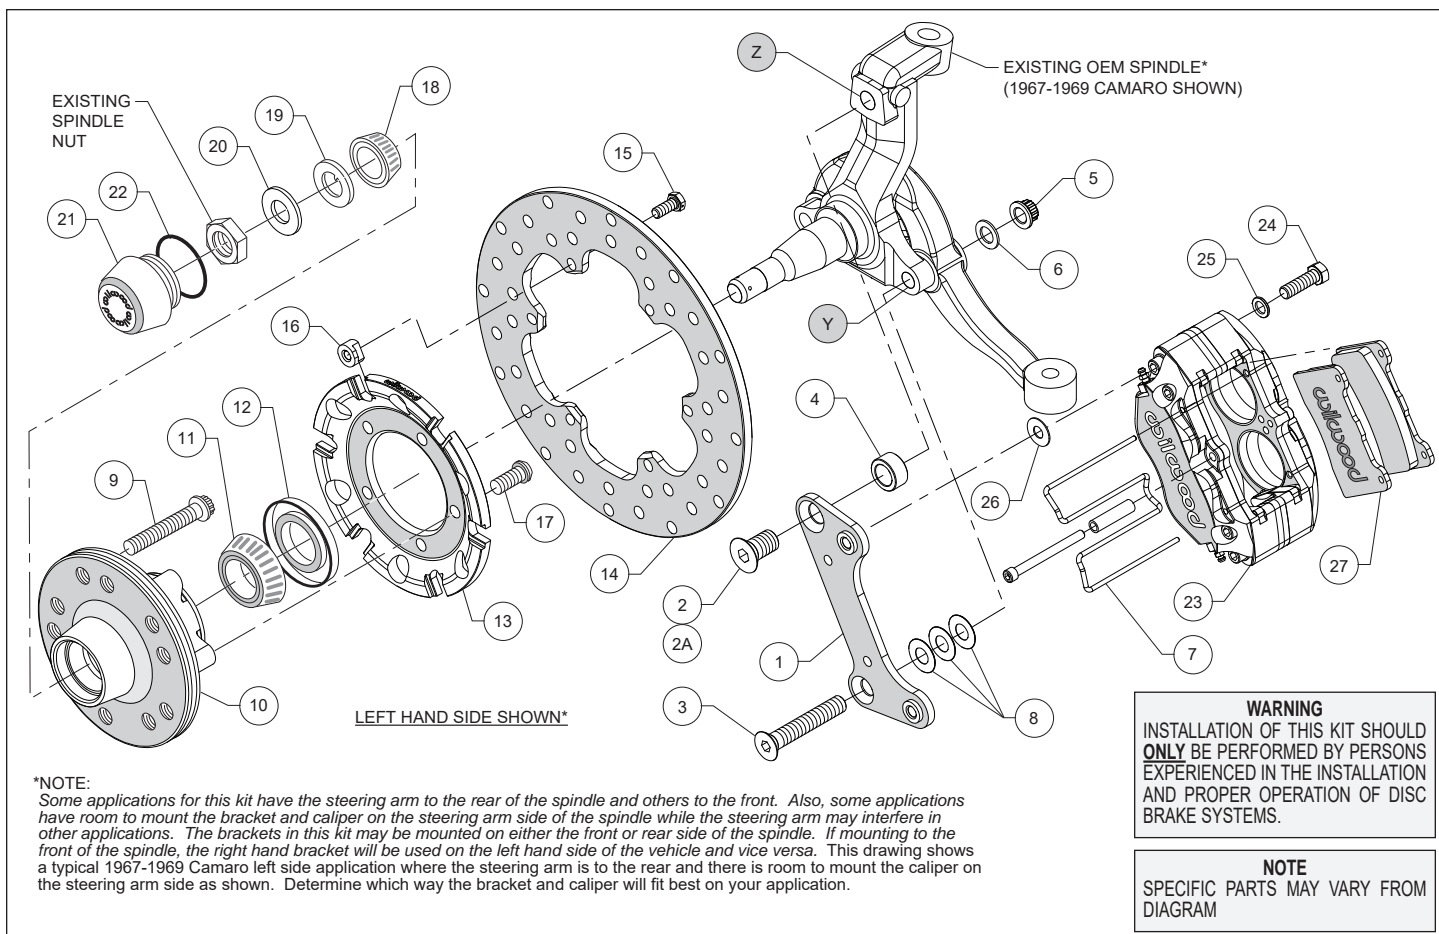
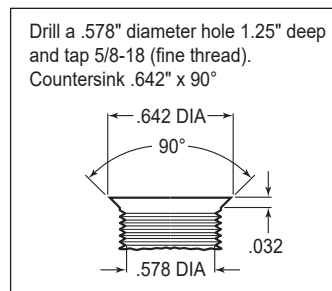
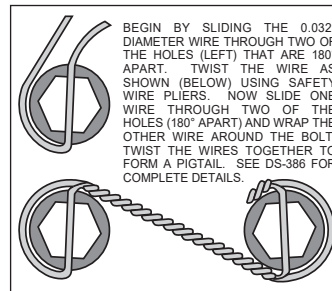
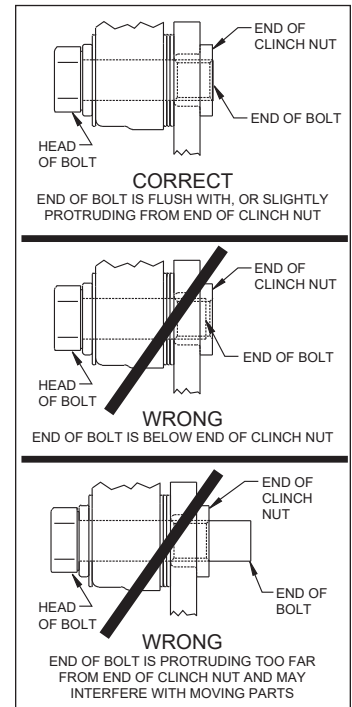

Figure 1. Typical Installation Configuration
Figure 3. Drill and Tap Detail
Figure 4. Safety Wire Diagram
Figure 5. Clinch Nut Engagement Diagram
Assembly Instructions (numbers in parenthesis refer to the parts list, on the preceding page and Figure 1): **CAUTION:** All mounting bolts must fully engage clinch nuts. Be sure to check that all bolts are either flush or protruding through flanged side of clinch nut after shimming, Figure 5.
•**NOTE:** Some applications for this kit have the steering arm to the rear of the spindle and others to the front. Also, some applications have room to mount the bracket and caliper on the steering arm side of the spindle while the steering arm may interfere in other applications. The brackets in this kit may be mounted on either the front or rear side of the spindle. If mounting to the front of the spindle, the right hand bracket will be used on the left hand side of the vehicle and vice versa. Figure 1 shows a typical 1967-1969 Camaro left side application where the steering arm is to the rear and there is room to mount the caliper on the steering arm side as shown. Determine which way the bracket and caliper will fit best on your application.
•**NOTE:** Some spindles in this year range may require the following modifications (reference Figure 1 and Figure 3): Top anchor pin hole (Z) must be drilled and tapped to the dimensions as outlined in Figure 3. The lower bolt hole (Y) in the spindle used to mount the new caliper bracket, and the mating steering arm hole, must be enlarged to .50" by drilling. It is recommended these modifications be performed by a qualified machinist.
•Install wheel studs (9) into the hub (10), Photo 1. Torque to 77 ft-lb. **NOTE:** There are two five lug patterns in the hub (5 x 4.50 and 5 x 4.75). Ensure the correct hub stud pattern is being used to fit the wheel application.
•Pack the large inner bearing cone (11) with high temperature disc brake bearing grease (available from your local auto parts store) and install into the backside of the hub (10), Photo 2.
•Install the grease seal (12) by pressing into the backside of the hub (10), flush with the end of the hub, Photo 2.
- Orient the rotor (14) and the rotor adapter (13) as shown in Figure 1 and Photo 3. Attach the rotor to the adapter using bolts (15) and T-nuts (16). Using an alternating sequence, apply red *Loctite*® 271 to the threads, and torque to 220 in-lb. Safety wire bolts using standard 0.032 inch diameter stainless steel safety wire as shown in Figure 4. Refer to Wilwood's data sheet DS-386 (available at www.wilwood.com/Pdf/DataSheets/ds386.pdf) for complete safety wire installation instructions.
- Mount the adapter/rotor assembly (13 and 14) to the hub (10) using bolts (17), as shown in Figure 1 and Photo 4. Using an alternating sequence, apply red *Loctite*® 271 to the threads, and torque to 45 ft-lb.
- Disc Brake Spindle Application Only: Follow the instructions below, but instead use bolt (2A), and spacer (4) in the upper bolt hole location, Figure 1.
- Orient the caliper mounting bracket (1) as shown in Figure 1 and Photo 5, and install using bottom bolt (3), washer (6), and nut (5), Figure 1. Initially place three .032" thick shims (8) between the bracket and spindle. Install the upper bolt (2). Temporarily tighten bolts. **NOTE:** The bracket must fit squarely against the mounting surfaces on the spindle. Inspect for interference from casting irregularities, machining ridges, burrs, etc. Temporarily install the new hub and rotor assembly. Check that the bracket is aligned parallel to the rotor, Photo 6. If not, adjust by adding or subtracting shims (8) on the lower bolt between the bracket and spindle, Figure 1. Once the bracket alignment is correct, remove the upper bolt (2 or 2A), apply red *Loctite*® 271 to the bolt threads, and torque to 120 ft-lb. Torque the lower lock nut to 65 ft-lb.
- NOTE:** Please reference the caution statement at the beginning of the assembly instructions. Mount the caliper (23) onto the caliper mounting bracket (1) using bolts (24) and washers (25), as shown in Figure 1. Initially place one .035" thick shim (26) on each bolt between the caliper and the bracket, Photo 9. Temporarily tighten the mounting bolts and view the rotor (14)
through the top opening of the caliper. The rotor should be centered in the caliper, Photo 10. If not, adjust by adding or subtracting shims (26) between the bracket and the caliper. Always use the same amount of shims on each of the two mounting bolts. **NOTE:** *The end of each bolt must be flush with or slightly protruding from the head of the clinch nut, as shown in Figure 5.* If necessary place spare shims (26) between washer (25) and caliper mounting ear to achieve the proper clinch nut engagement. Once the caliper alignment and clinch nut engagement are correct, remove the bolts one at a time, apply red *Loctite*® 271 to bolt threads, and torque to 40 ft-lb. For an added measure of security, the bolts may be safety wired using standard 0.032 inch diameter stainless steel safety wire as shown in Figure 4. Refer to Wilwood's data sheet DS-386 (available at www.wilwood.com/Pdf/DataSheets/ds386.pdf) for complete safety wire installation instructions.